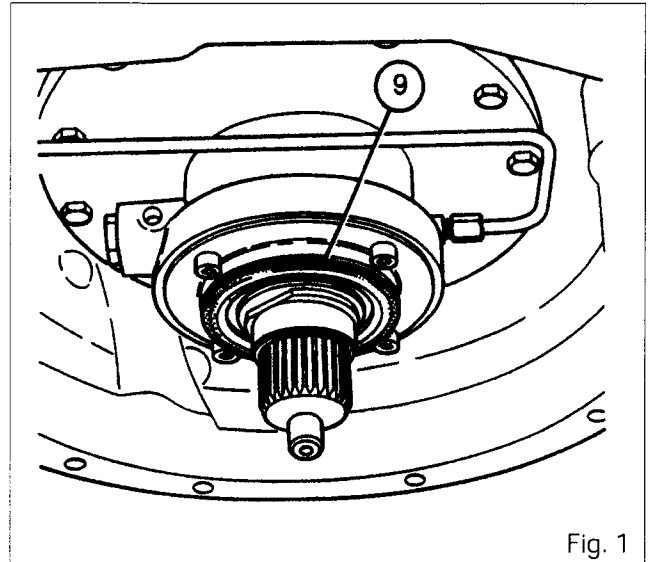

Fig. 1
10. Check that the shims **(9)** are installed (Fig. 1).